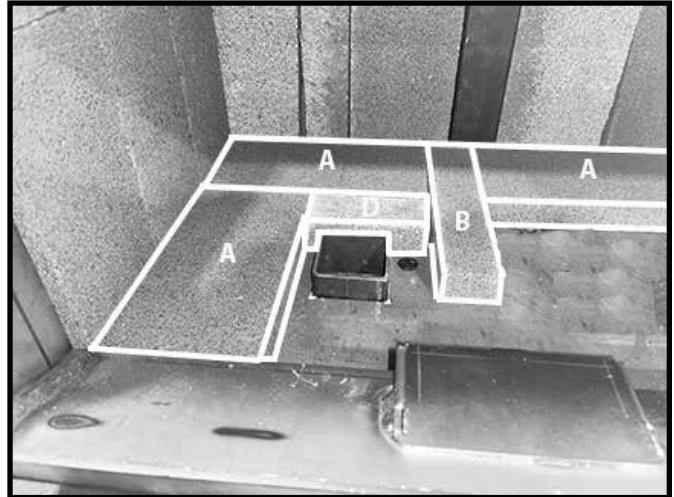

Figure 30: Left side A brick and D brick behind ash dump.
7. Place an "A" brick in front of the left side "A" brick located at the rear of the firebox floor and slide it back so that both "A" bricks are touching. Then place one "D" brick behind the ash dump and between the "A" brick and "B" brick (Figure 30).